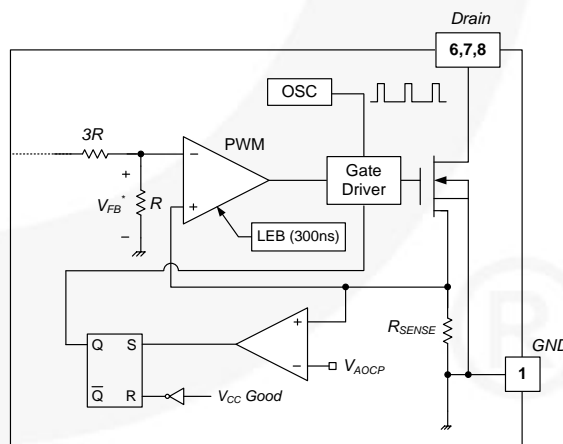

Figure 22. Abnormal Over-Current Protection
4.2 Abnormal Over-Current Protection (AOCP): When the secondary rectifier diodes or the transformer pins are shorted, a steep current with extremely high di/dt can flow through the SenseFET during the minimum turn-on time. Overload protection is not enough to protect the FSL117MRIN in that abnormal case; since severe current stress is imposed on the SenseFET until OLP is triggered. The internal AOCP circuit is shown in Figure 22. When the gate turn-on signal is applied to the power SenseFET, the AOCP block is enabled and monitors the current through the sensing-resistor. The voltage across the resistor is compared with a preset AOCP level. If the sensing resistor voltage is greater than the AOCP level, the set signal is applied to the S-R latch, resulting in the shutdown of the SMPS.